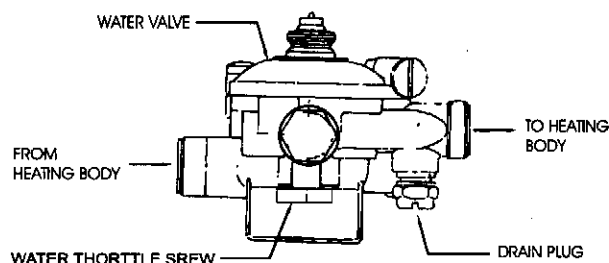

Figure 8
- Make sure drain is closed. See figure 8, below.
Maximum flow rate through the heater can be adjustment by turning the water throttle screw (see figure 8).